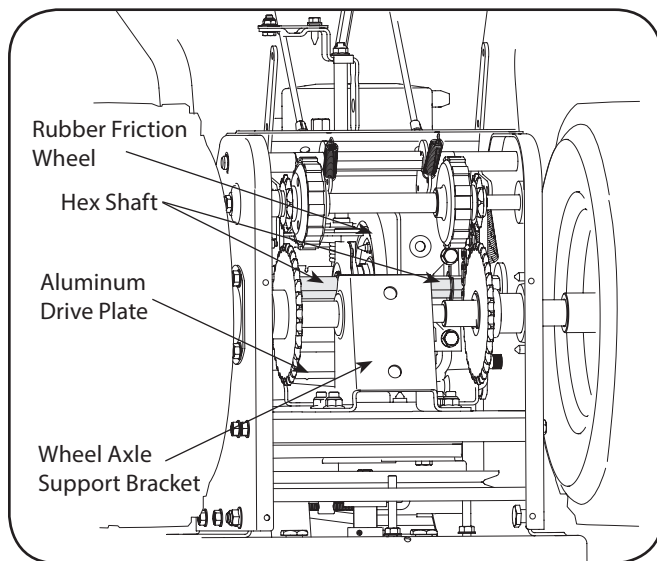

Figure 6-1
At least once a season or after every 25 hours of operation, remove rear cover. Lubricate all chains, sprockets, gears, bearings, shafts, and the shifting mechanism. Use engine oil or a spray lubricant. Refer to Figure 6-1.
3. Apply a light coating of engine oil (or 3-in-1 oil) to the hex shaft. See Figure 6-1.